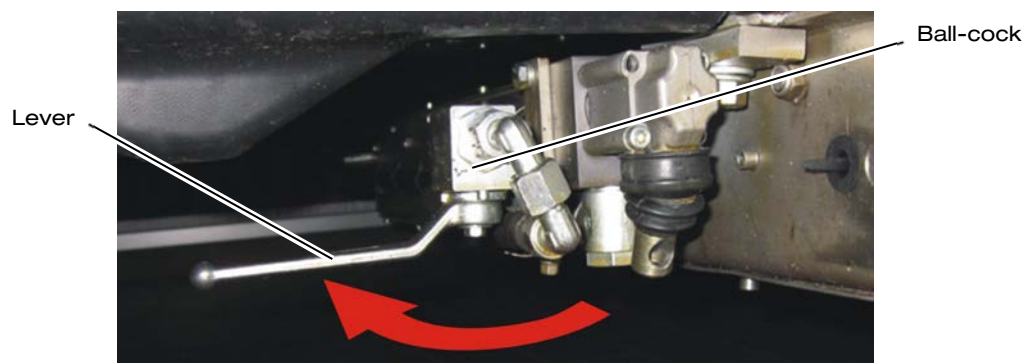

Figure 33: Opening the Ball-Cock
- ⇒ Open the ball-cock by turning the lever to the left (see Figure 33).